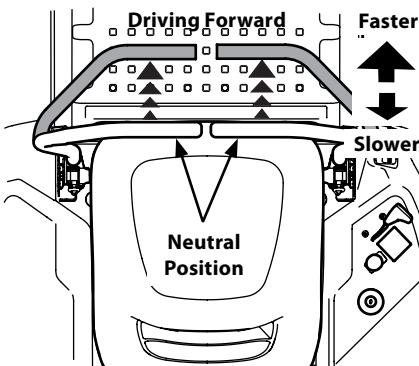

Figure 3-4
- Slowly and evenly move both drive control levers forward. The tractor will start to move forward. See Figure 3-4.